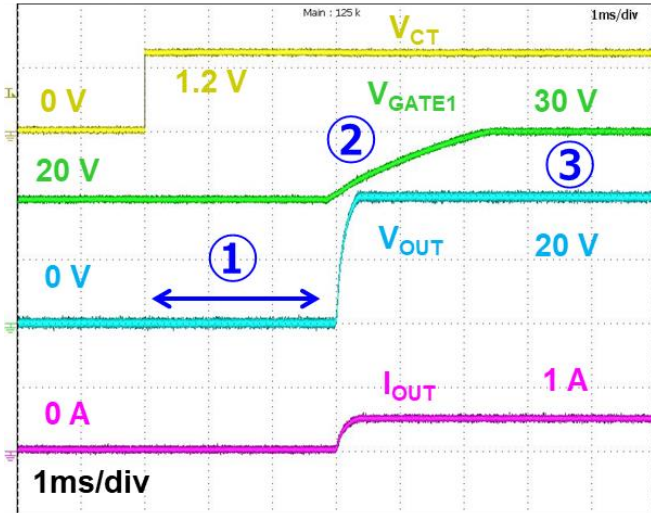
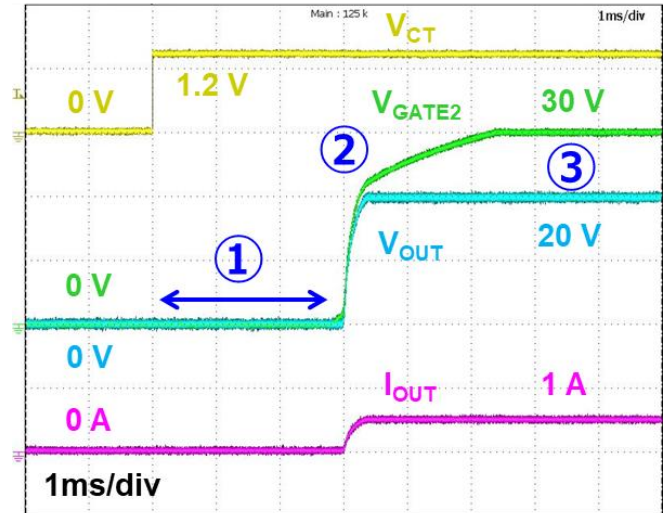

Fig 7.2 Turn-on operation (VGATE1)
Fig 7.3 Turn-on operation (VGATE2)
Fig 7.2 and Fig 7.3 are the turn-on operation of VGATE1 and VGATE2 terminals. If  $V_{CT}$  is turned on when a  $V_{IN}$  inputs, it is not output immediately, and a delay period  $t_{HD}$  (Hold time) occurs (①). After  $t_{HD}$ ,  $V_{GATE1}$  and  $V_{GATE2}$  increase until  $V_{GS}$  ( $= V_{GATE} - V_{IN}$ ) is 10 V (②). After increasing, intermittent operation is performed so that  $V_{GS}$  keeps 10 V (③).